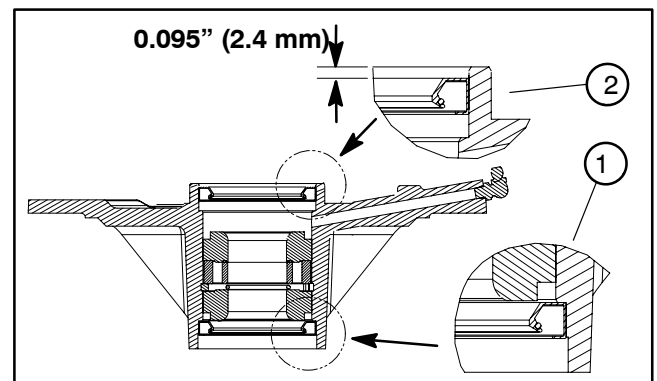

Figure 11
5. Install lower bearing and seal into bottom of spindle housing. **Note:** The bottom seal must have the lip facing out (down) (Fig. 11).
6. Slide spacer ring and inner spacer into spindle housing, then install upper bearing and seal into top of housing. **Note:** The upper seal must have the lip facing in (down) and be recessed into the spindle housing 0.095" (2.4 mm) (Fig. 11).